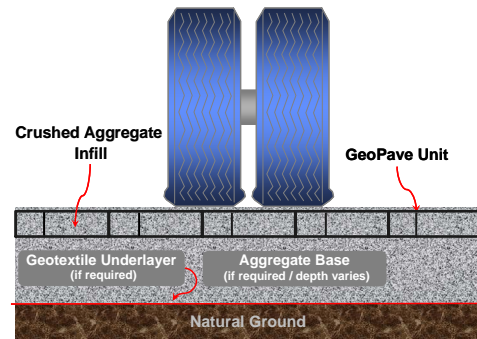

Figure 1 The GeoPave Porous Pavement System
- Figure 1 The GeoPave Porous Pavement System 1